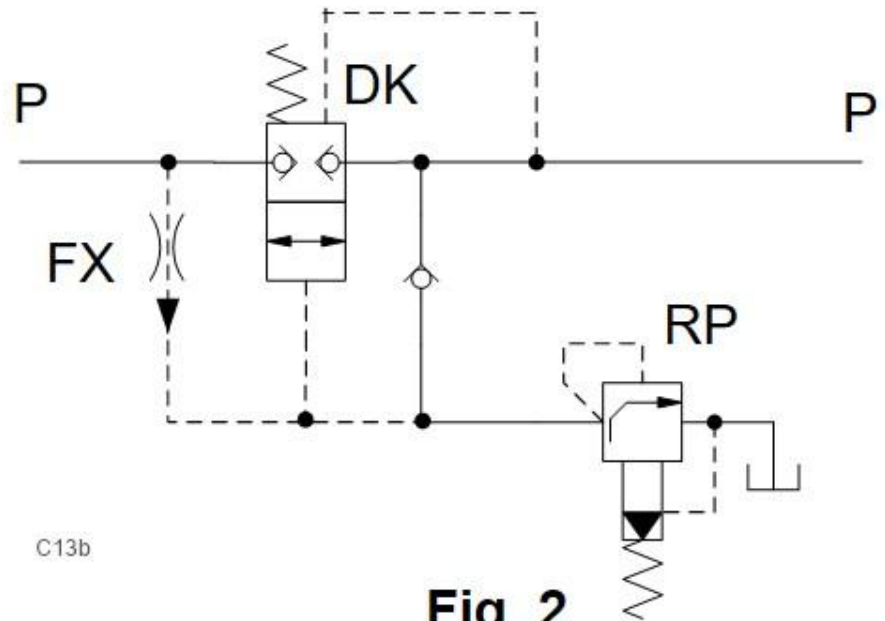

Fig. 2
This example shows a direct-acting pressure-reducing/relieving main-stage element piloted with pressure created by an anti-shock relief valve. Fig.2 shows a normally closed balanced logic element as pressure-reducing valve.
- **Fig. 2** uses a normally closed balanced logic valve DK*S as a main stage. It offers greater pressure reducing stability when the downstream flow changes rapidly. A check valve between the pilot stage and P provides an optional additional relief function.